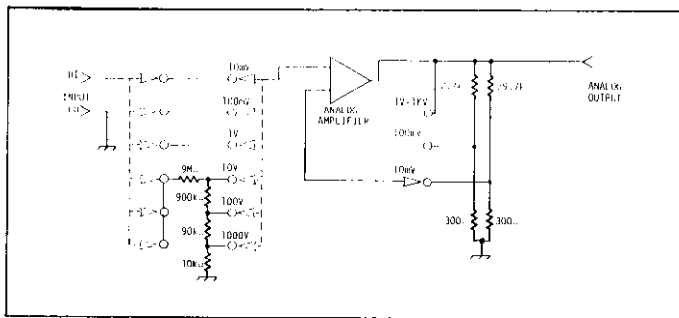

FIGURE 13. Voltmeter Configuration.
1. DCV. When this mode is selected the input HI is connected thru a divider to the analog amplifier input. The divider is used on the 10V, 100V, and 1 kV ranges. The divider ratios are 1/10, 1/100, and 1/1000 respectively to give a 1 volt input to the analog amplifier. See Figure 13.